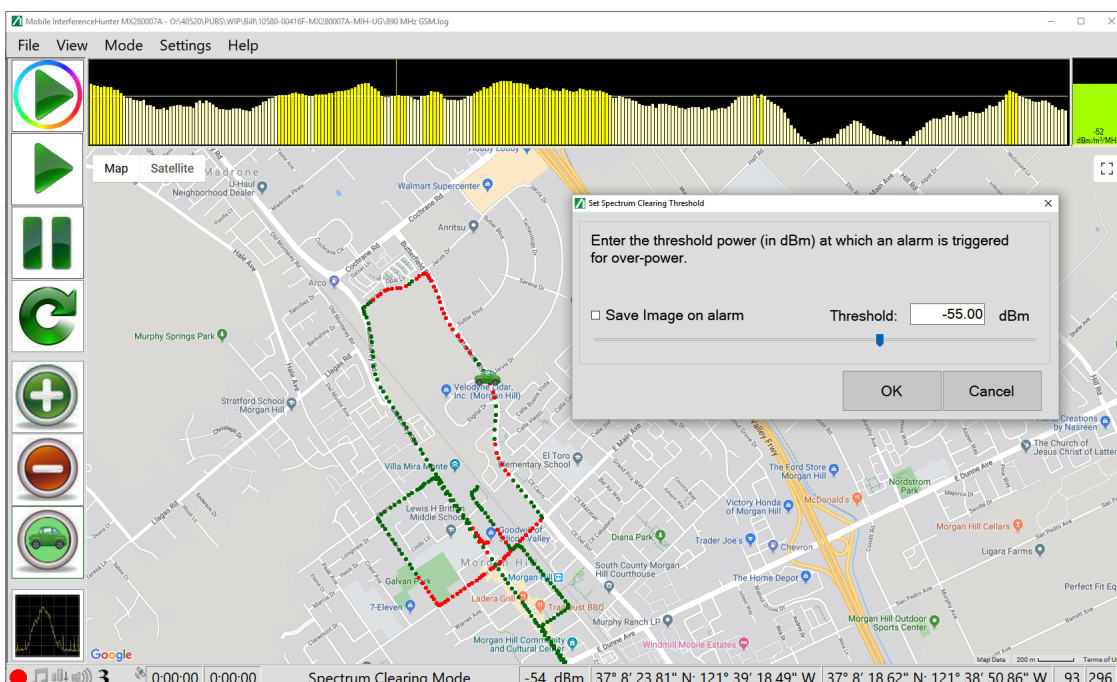

**Figure 3-6.** Spectrum Clearing Mode Screen
**Spectrum Clearing:** Opens the dialog and sliding scale as shown in Figure 3-6. The colored power scale appears at the top right corner of the user screen disappears.
Type the threshold power in dBm. The threshold power level entered is represented by a horizontal line across the channel power display as shown in Figure 3-6. The breadcrumbs will be red (above threshold) or green (below threshold).